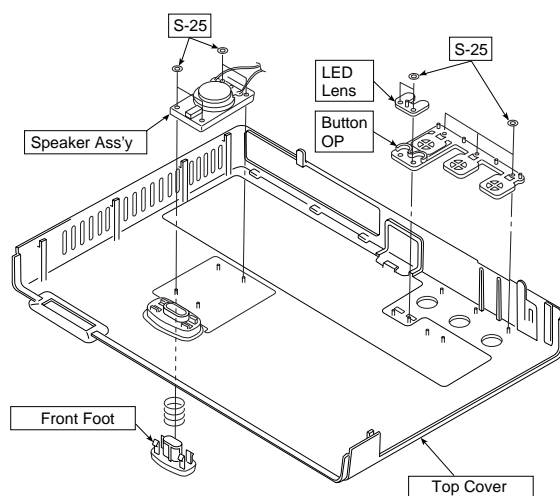

Fig. 3
- 3) Speaker, buttons, etc. (See Fig. 3.)
As shown in Fig. 3, remove the nuts, speaker button OP, and LED lens. Undo the hooks and remove front buttons.